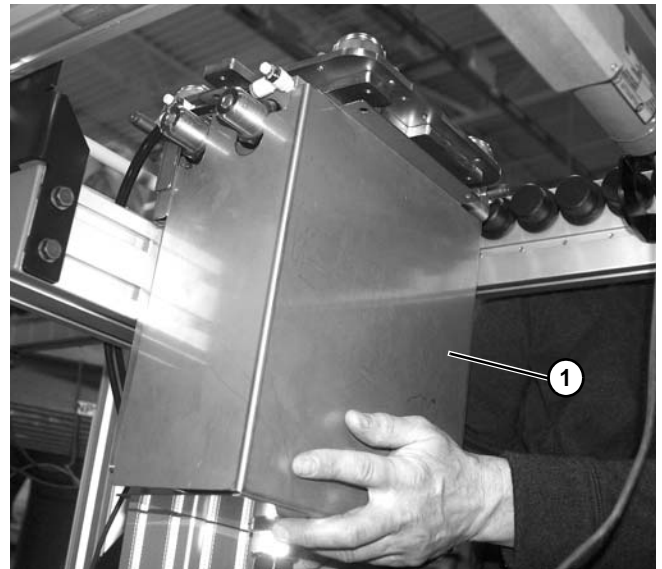

Figure 59
2. Lower cylinder guard (**Figure 59, item 1**) from around cylinder assembly.